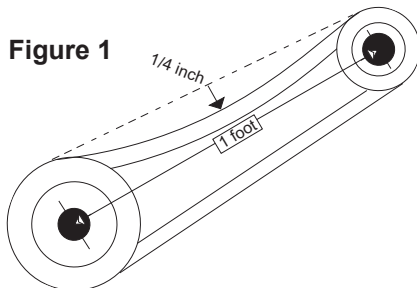

Figure 1
2. Slide motor plate until proper tension is reached. For proper tension, a deflection of approximately 1/4" per foot of center distance should be obtained by firmly pressing the belt. Refer to *Figure 1*.